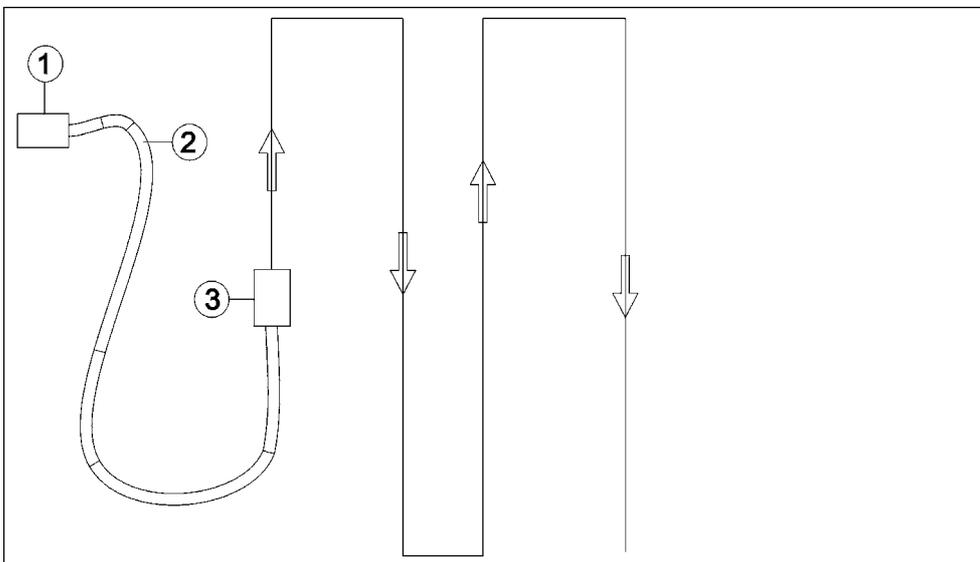

Fig. 6.1
Figure 6.1 shows the recommended scarifying paths leading away from the filter unit.
- Place the scarifier near to the filter unit and spread out the hose as shown in fig. 6.1.